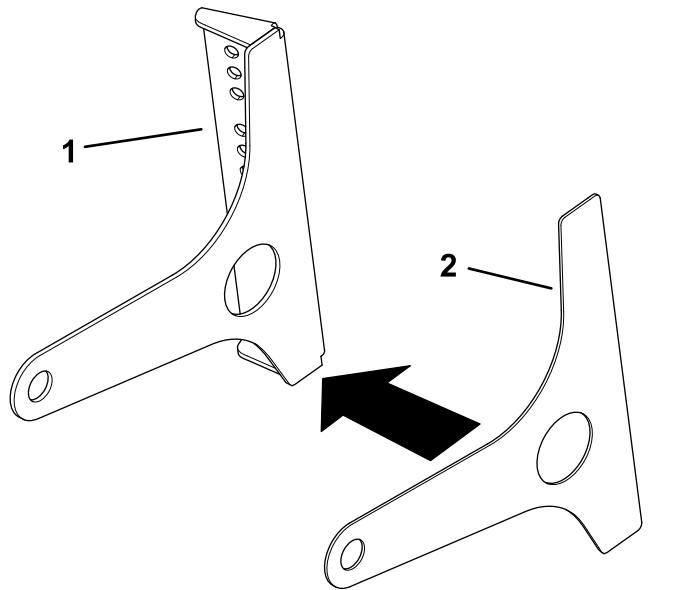

Figure 3
4. Adhere the handle gasket to the mirror mount (Figure 3).